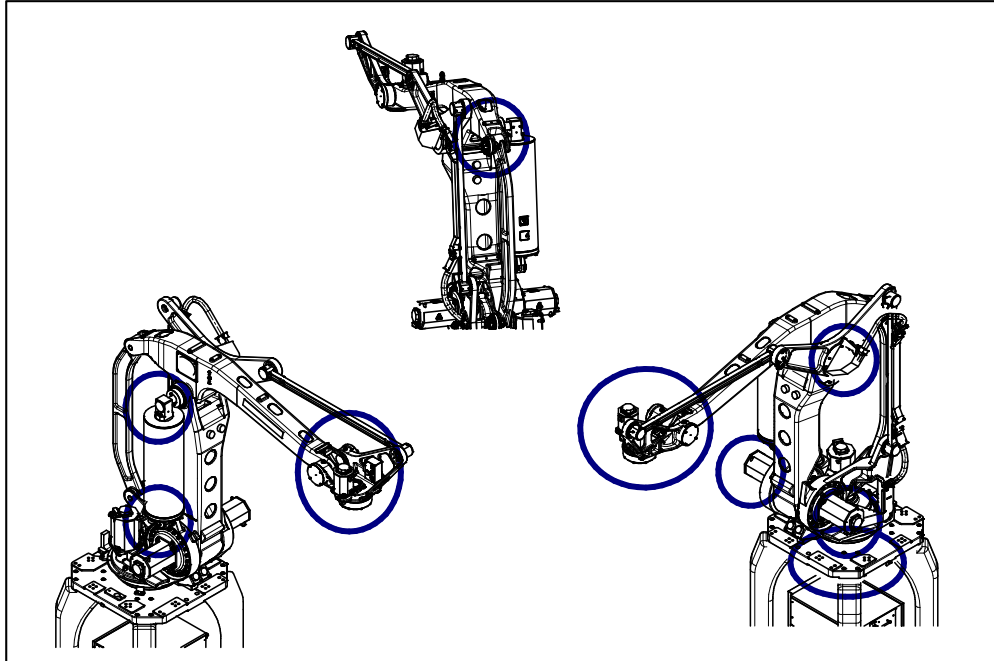

Fig. 2.2.1 (a) Check parts of oil seepage
- Oil might accumulate on the outside of the seal lip depending on the movement condition or environment of the axis. If the oil viscosity changes, the oil might drip depending on the axis movement. To prevent oil spots, be sure to wipe away any accumulated oil under the axis components in Fig. 2.2.1 (a) before you operate the robot.